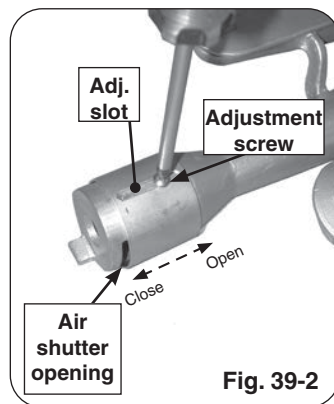

Fig. 39-2
3. Adjust the air shutter opening by loosening the adjustment screw with a screwdriver, then sliding the air shutter backward or forward to open or close the air shutter opening (see Fig. 39-2).